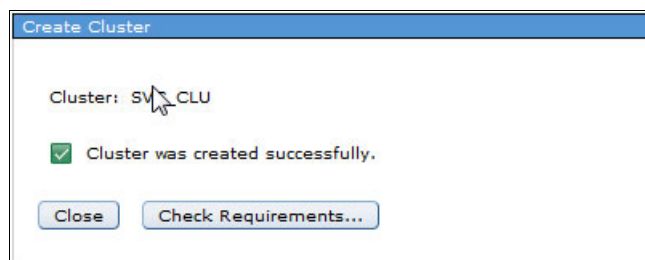

Figure 4-14 Cluster creation successful message
11. Status messages appear as the cluster is created, as shown in Figure 4-14. Click **Close** to return to the PowerHA main menu.